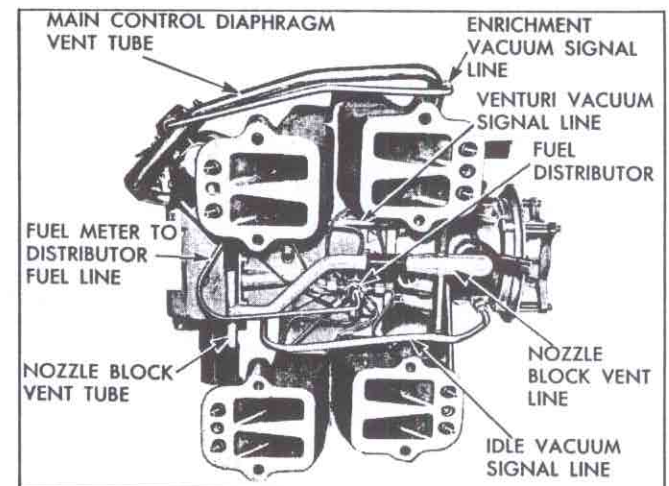

Fig. 122—Fuel and Nozzle Vent Lines
3. Remove the fuel meter-to-distributor fuel line, leaving the brass adapter fitting installed in the fuel meter casting (fig. 122). This fitting should not be removed from the fuel meter unless replacement is required. Exercise caution in removing this line at fuel meter end. Tube extends through adapter fitting into casting about 1¼".